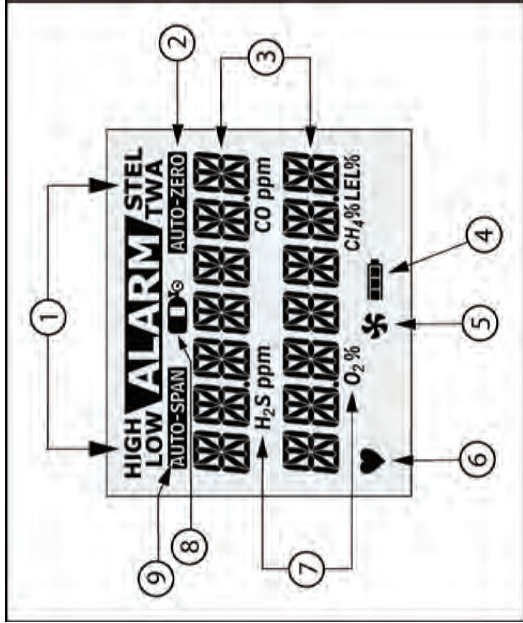

Figure 2. Display Elements
- Figure 2. and Table 3. describe the detector's display elements.